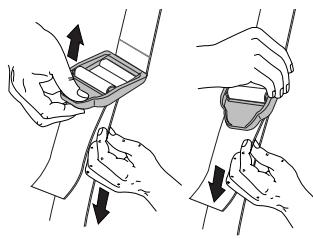

Fig. 5
4. Adjust length to fit the operator's size. Pull tab to lengthen, pull strap to shorten (Fig. 5).